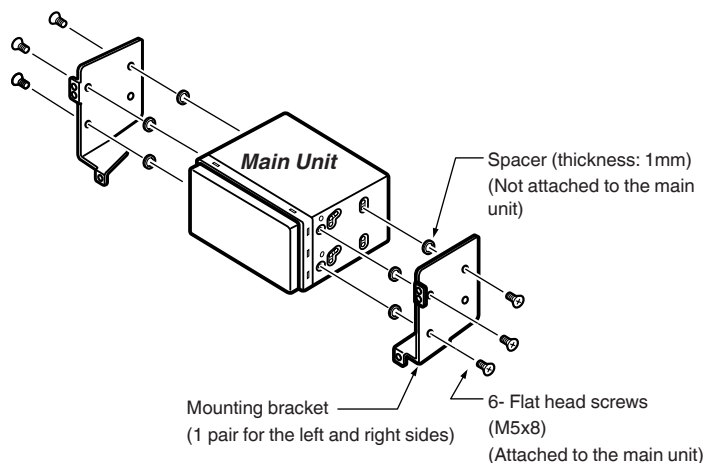

Figure 5
- When installing the main unit in NISSAN vehicles, use the parts attached to the unit and follow the instructions in Figure 5.